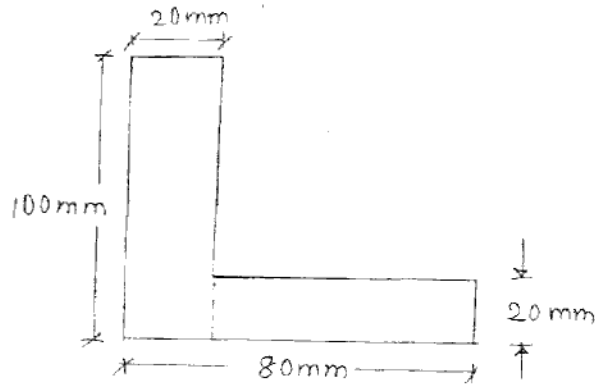

FIG. 7
9. Find the MI @ the centroidal XX and YY axes of the angle section shown in the FIG. 7.